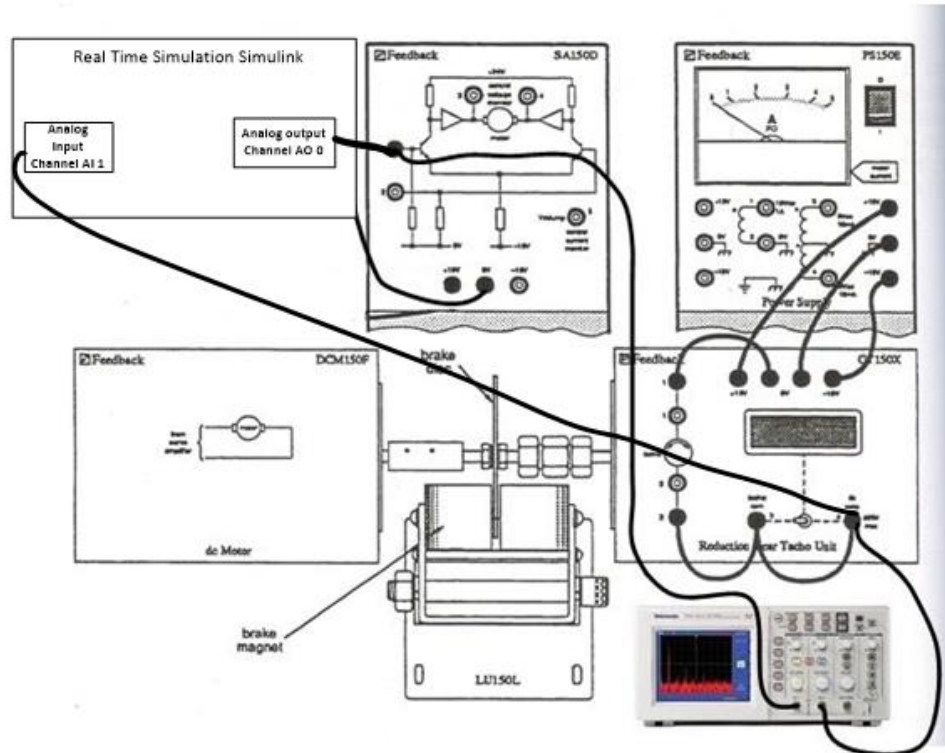

Figure 7. Circuit connection for lead speed controller for Real Time implementation
Figure 7 shows the circuit diagram of the real time implementation of the control system for speed control of DC motor.
6. Connect the circuit as shown in figure 7.